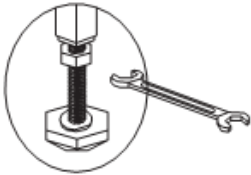
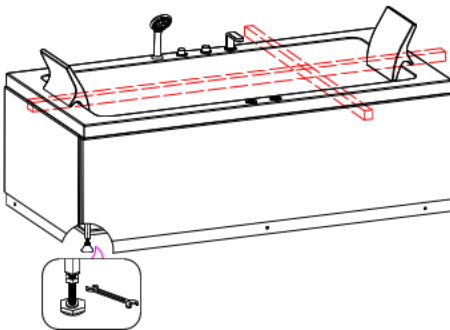

Fig. 1
Fig. 6
2. Adjust the bathtub levelness (the water at the bottom of the bathtub cannot be completely drained if the bathtub is not well-leveled). Put the bathtub in the installation position. In case of uneven ground, measure with a level bar (as shown in Figure 6), adjust the bathtub feet to keep the bathtub in a level position, then tighten the foot-adjusting screws (as shown in Figure 1).
Connect multi-spray hand shower (as shown in Figure 6).